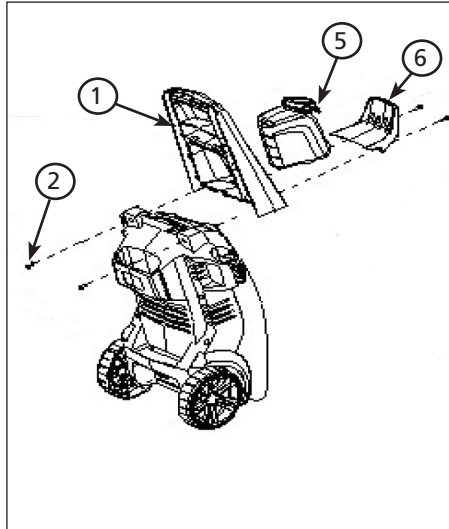
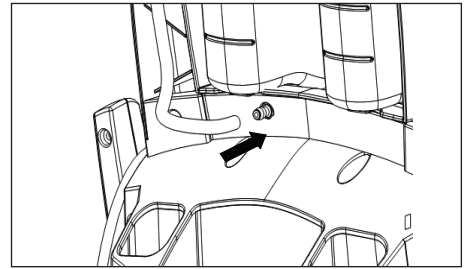

Figure 7 - PW1826
Figure 8 - Attach soap tube to unit
1. Slide handle (1) onto unit (see Figure 7).
3. Slide hose hook (6) onto front of pressure washer.
5. Slide soap tank (5) into handle.
6. Attach soap tube to unit (see Figure 8).